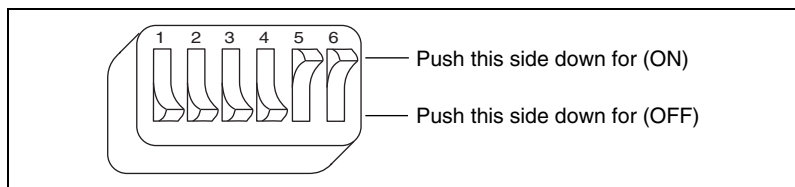

Figure 2-4. Memory Base Address 0x0D4000 Switch Setting
2. In Table 2-2, find one of the conflict-free memory base addresses you wrote in Table 2-1. Bold italic denotes default setting. Change the switch settings as indicated in Table 2-2. If 0x0D4000 was on your conflict-free list, this is often a good address to choose. Figure 2-4 shows the switches set to memory base address setting 0x0D4000.